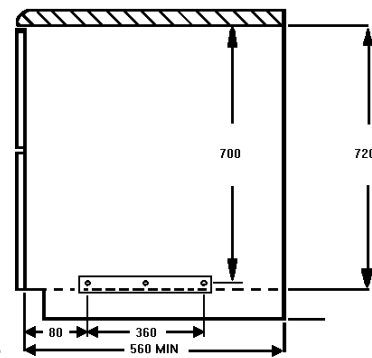
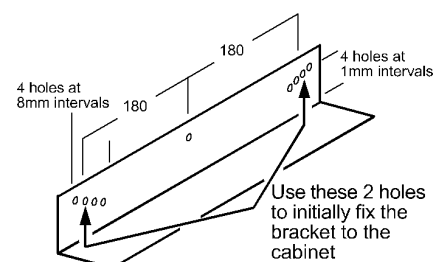

Fig. 5
Fig. 7
- Make sure the space between the cabinets is the correct size for the appliance to be fitted (Ref. Fig. 5 & 6).
- Drill two pilot screw holes into the sides of the adjacent cabinets, in the positions indicated by Fig. 5.
- Fit the appliance mounting brackets using the two holes indicated in Fig.7 to the adjacent cabinets (Ref. Fig.5 & 6).